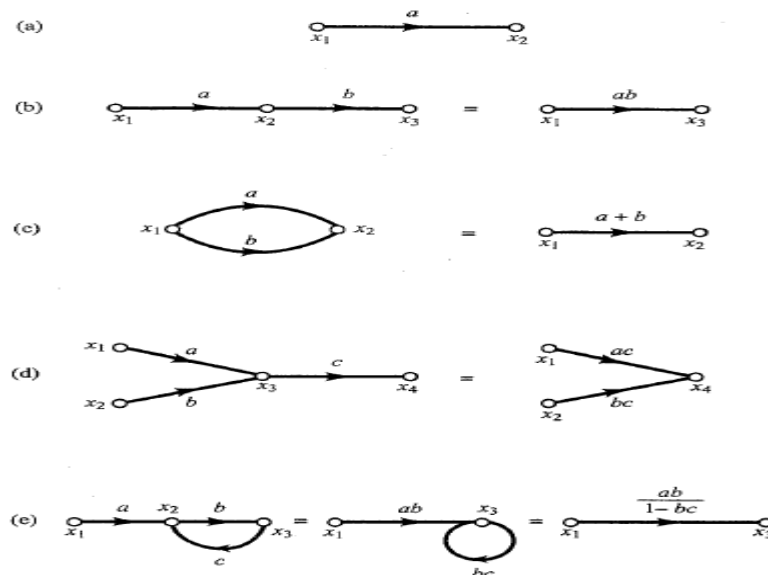

Figure 3-1 Signal flow graphs and simplifications
1. The value of a node with one incoming branch, as shown in Figure 3-1(a), is $x_2 = ax_1$.
2. The total transmittance of cascaded branches is equal to the product of all the branch transmittances. Cascaded branches can thus be combined into a single branch by multiplying the transmittances, as shown in Figure 3-1(b).
3. Parallel branches may be combined by adding the transmittances, as shown in Figure 3-1(c).
4. A mixed node may be eliminated, as shown in Figure 3-1(d).
5. A loop may be eliminated, as shown in Figure 3-1(e). Note that $x_3 = bx_2$, $x_2 = ax_1 + cx_3$